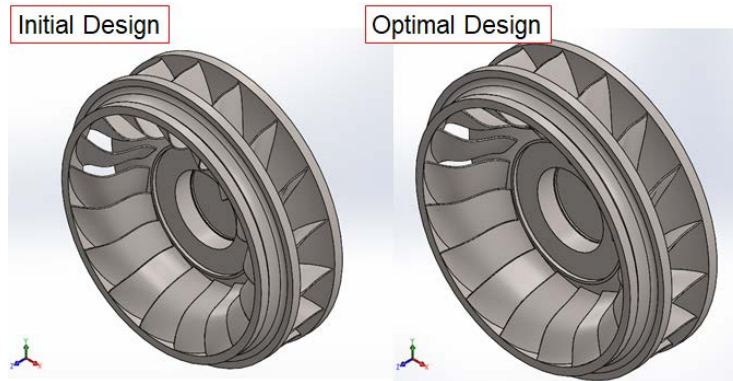

Figure 3 Initial Design (left) and Optimal Design by SmartDO (right)
4. In our example, SmartDO successfully generated a new optimized design with about a 60% higher output torque than the original design. Figures 3 and 4 are the comparisons made between the original design and the optimized design by SmartDO.